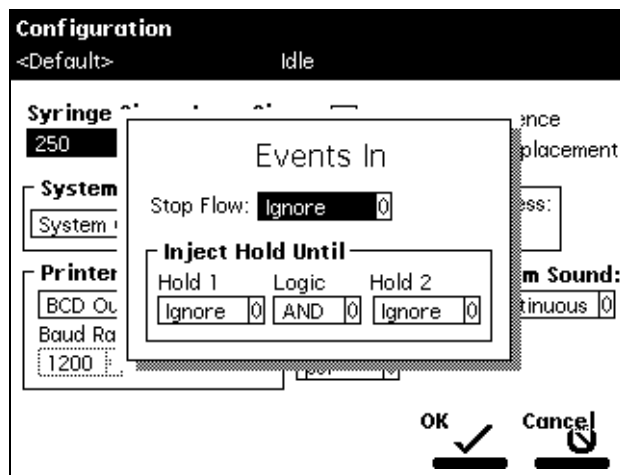

Figure 3-7 Events In Dialog Box
1. Press the **Events In** screen key to display the Events In dialog box (Figure 3-7).